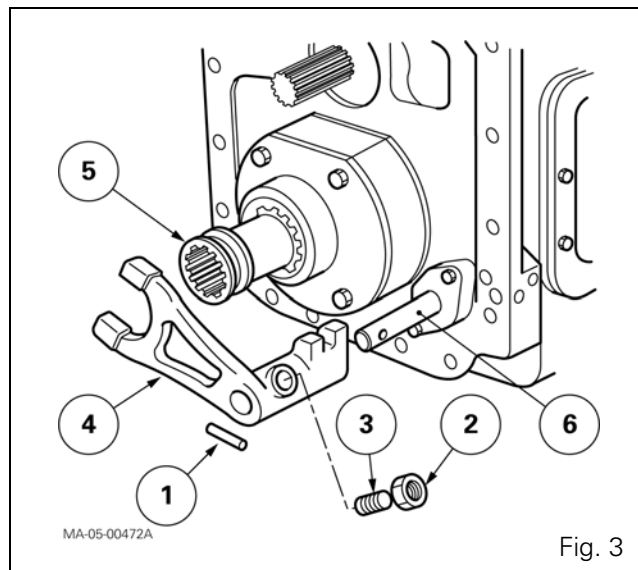

Fig. 3
4. If the tractor is fitted with a creeper unit, remove the pin (1), the counter-nut (2), the adjustable lock (3), and the fork (4) with the sleeve (5) (Fig. 3).
8. Depending on the equipment, refit the sleeve (5), fork (4), adjustable lock (3) and pin (1) (Fig. 3).